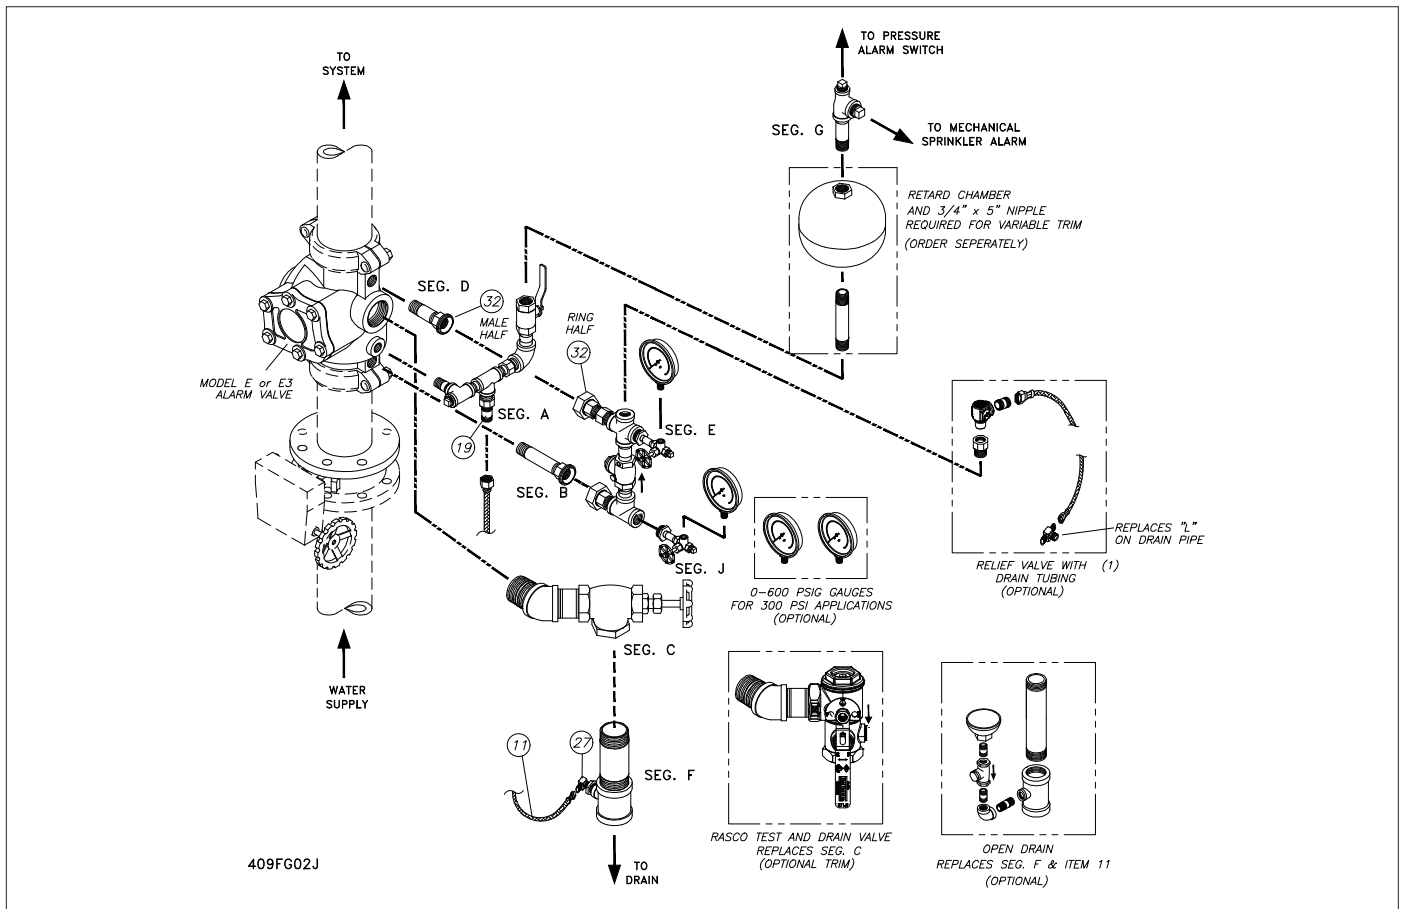

Figure 2 - Model E3 Alarm Valves with Variable Pressure Trim
The basic trims of the Reliable Model E3 High Pressure Alarm Valve (Figure 2) are arranged for rapid, easy and compact attachment. They serve as a connecting point to Reliable alarm and other devices. The trims also serve as a means for testing the operation of the alarm devices while exercising the alarm valve clapper. Two Model E3 High Pressure trim sets are available for use with the Model E3 High Pressure Alarm Valve. These trims come standard with 0 to 300 psi gauges for 175 psi applications. For 300 psi applications the 0 - 600 psi gauge kit must be ordered. Note: Due to changing Approval agency requirements, the gauges supplied with the 300 psi kit may not be listed at time of ordering.
A pressure relief valve is required for all systems to be installed in accordance with the 2010 edition (or newer) of NFPA 13. For convenience, a Pressure Relief Trim Kit (illustrated in Figs. 2, 7, and 8) is available.
• Variable Pressure Vertical Installation (Figure 2)
• Constant Pressure Vertical Installation (Figure 2)